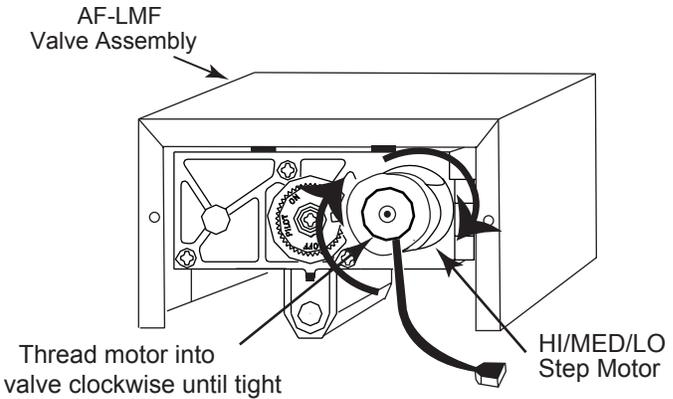

Figure 2. Installing step motor.
3. Install the ON/OFF and HI/MED/LO DC step motor into the threaded hole on the gas valve that the cap was removed from and screw into place and do not over tighten. **NOTE:** Figure 2
4. Reinstall AF-LMF front original faceplate that came installed on the AF-LMF and reinstall the (2) screws and tighten.